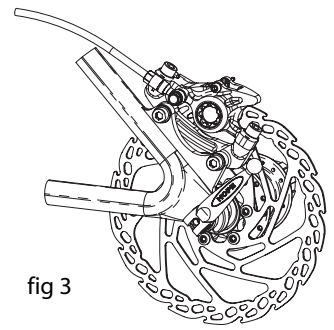

fig 3
b) Follow the same instructions as fitting the brake onto a postmount (see previous section). Illustration fig 3.